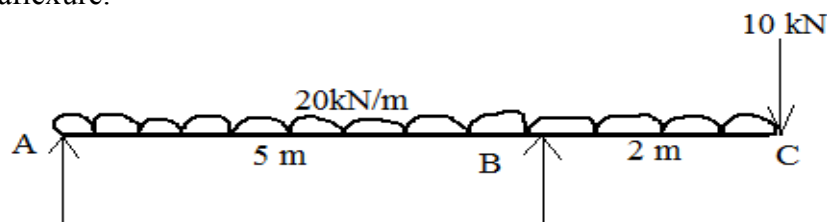

Fig. 1
- 5 A simply supported beam ABC with supports at A and B, 5m apart with an overhang BC 2m long carries a uniformly distributed load of 20 kN/m over the whole length as shown in Fig.1. Draw S.F and B.M diagrams and locate the point of contraflexure. (10)